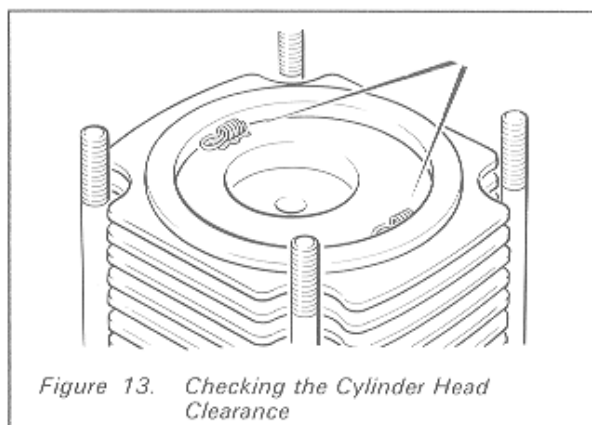

Figure 13. Checking the Cylinder Head Clearance
6. Refer to Figure 13, and using a very small amount of high melting point grease place the two pieces of wire (A) on the piston crown (B) at either side of the gudgeon pin axis and 90° to the centre line. They should just touch the cylinder bore.